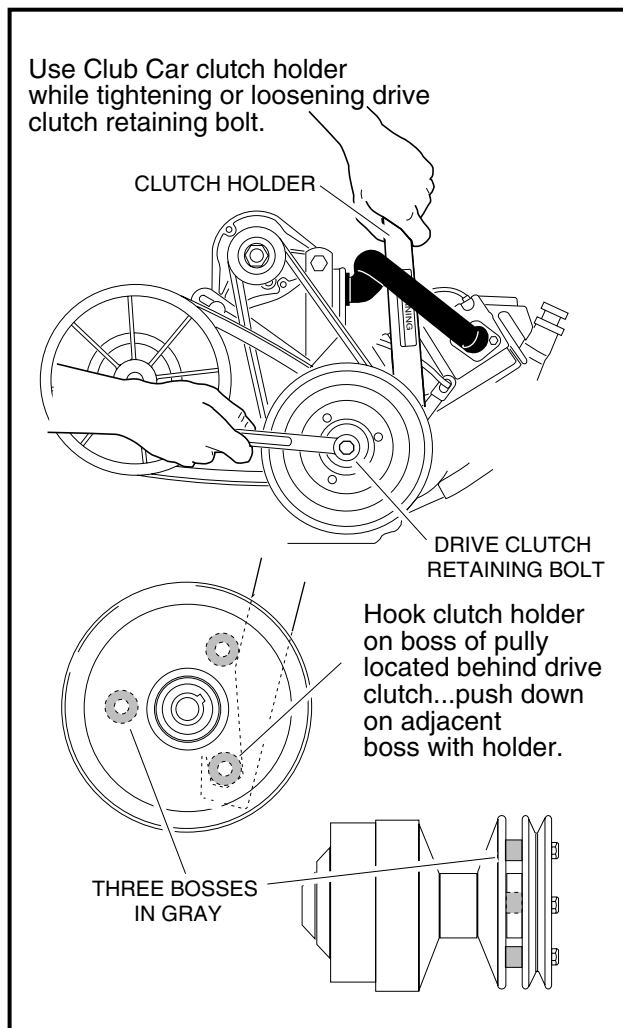
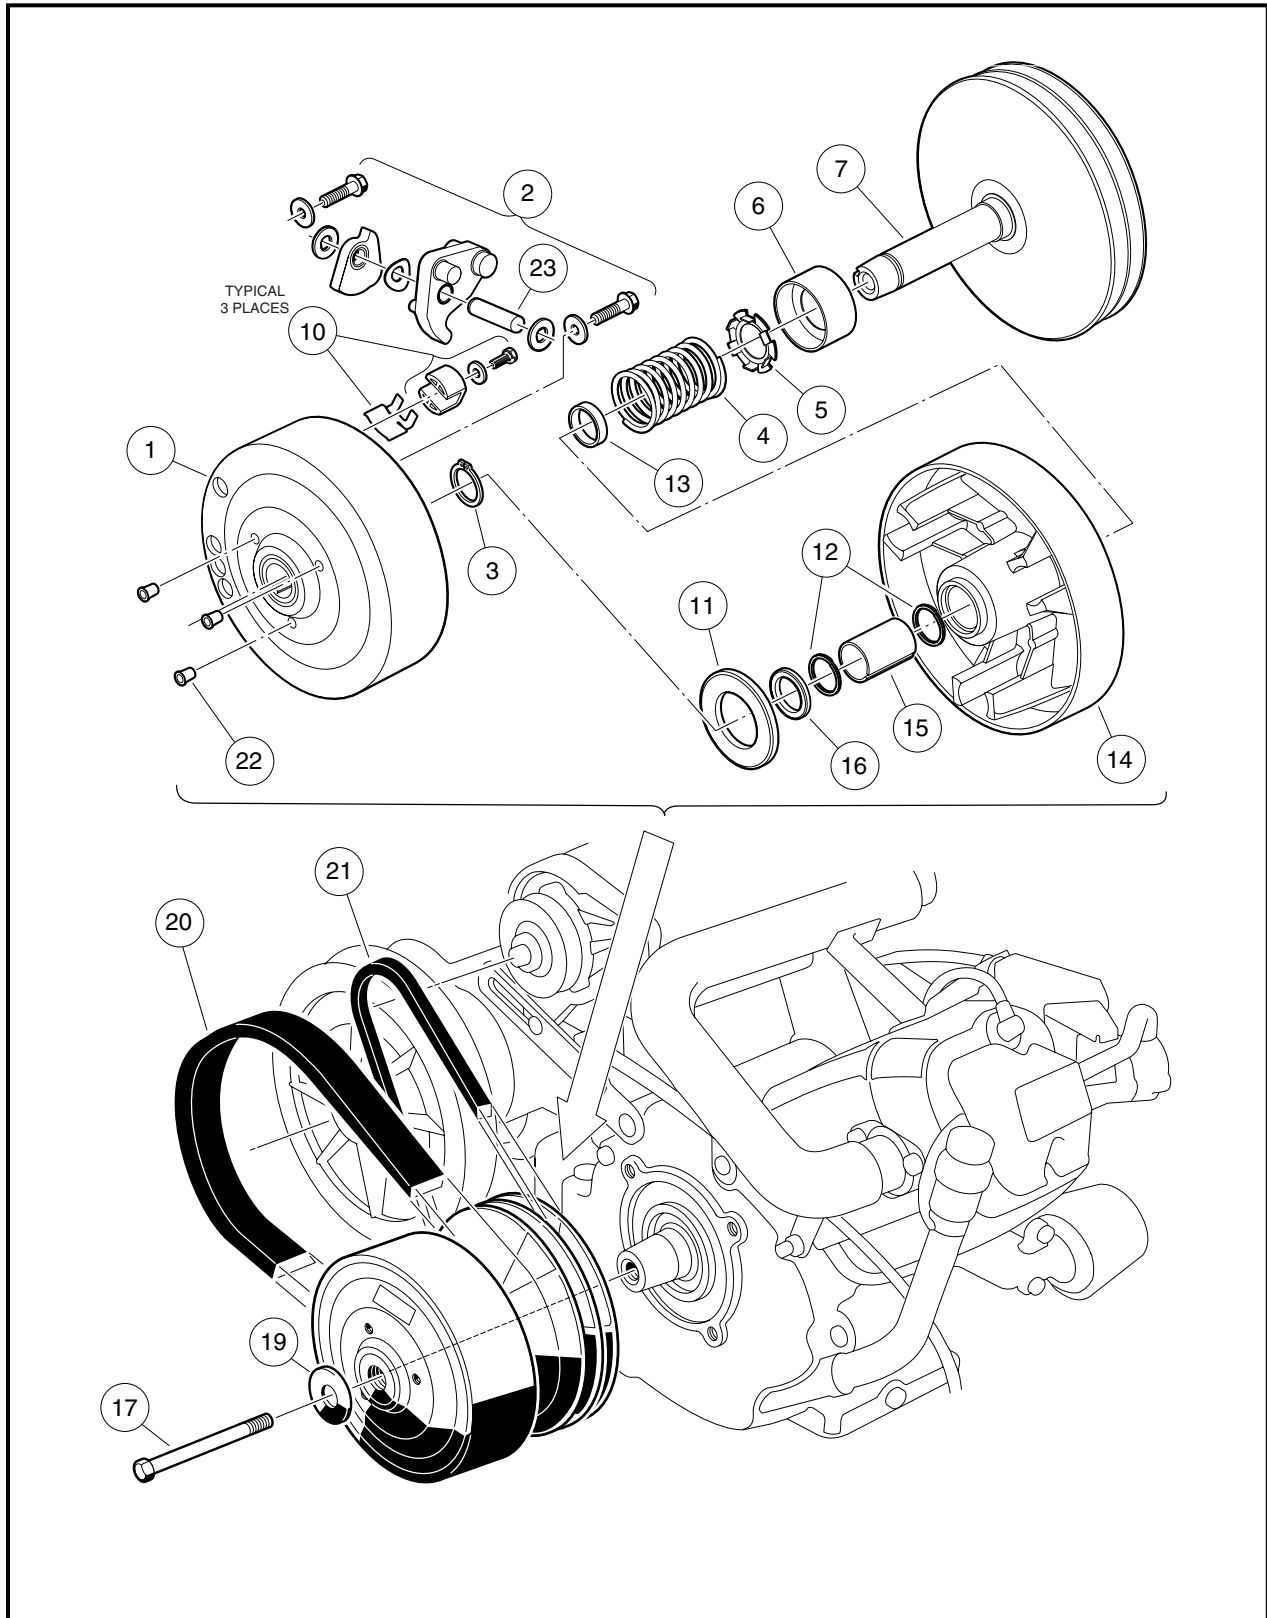
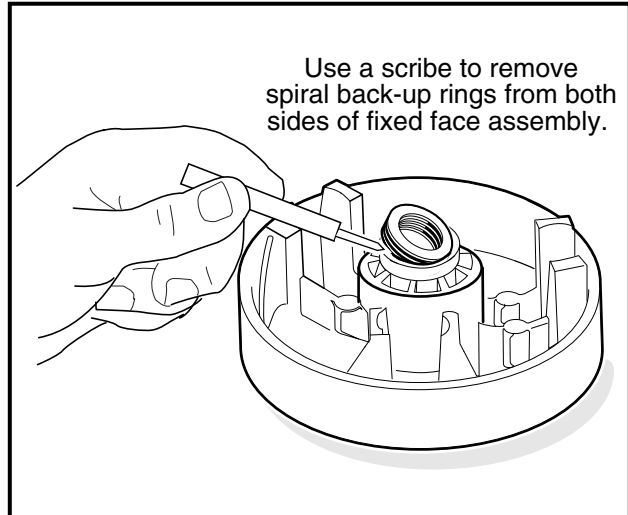

Figure 17-3 Loosen Retaining Bolt
Figure 17-7 Drive Clutch Assembly
Figure 17-11 Spiral Back-up Rings
3. If cleaning both clutches does not solve the problem, disassemble and thoroughly clean all parts in the drive clutch. Be sure to clean the plastic drive buttons (10) (**Figure 17-7, Page 17-8**).
6. Remove the drive clutch retaining bolt (17) and mounting washer (19) (**Figure 17-7, Page 17-8**). See also **Figure 17-3, Page 17-5**.
- Use only a dry cloth to lightly wipe the shaft (7) of the fixed face assembly (Figure 17-7, Page 17-8). Do not use a brush or steel wool. These will damage the surface of the shaft.
2. Remove the clutch drive hub (1) (Figure 17-7, Page 17-8).
- 2.1. Remove the plastic plug ring (22) from the clutch puller attachment holes in the drive hub (1) (Figure 17-7, Page 17-8).
- 2.4. Unscrew the hub puller center bolt from the clutch, forcing the stop nut up against the puller plate, lifting the drive hub (1) from the fixed face shaft (7) (Figure 17-7, Page 17-8).
3. Remove the thrust washer (11) from the moveable face (14).
6. Remove the retaining ring (3) from the shaft of the fixed face assembly (7) and slide the moveable face (14) off the shaft (**Figure 17-7, Page 17-8**). See following NOTE.
**NOTE:** When the moveable face is removed from the hub of the fixed face, the spiral back-up rings (12) must be replaced with new ones at time of assembly (**Figure 17-7, Page 17-8**).
7. Remove the spacer (13), spring (4), and retainer (5). The spring retainer (5) can be removed from the spring if necessary (**Figure 17-7, Page 17-8**).
9. Use a scribe or small pick to remove the spiral backup rings (12) from each end of the bore in the fixed face assembly (**Figure 17-7, Page 17-8**). See also **Figure 17-11, Page 17-10**. Discard the rings.
1. Inspect the idler bearing (6) for smooth rotation or seal damage (**Figure 17-7, Page 17-8**).
2. Inspect the bore of the moveable face assembly (14) for scarring or wear. The moveable face assembly must be replaced if the bore is worn to a diameter of 0.883-inch (22.4-mm) or larger (**Figure 17-7, Page 17-8**).
3. Inspect the steel shaft (7) on the fixed face assembly. There should be no noticeable wear anywhere on the shaft. Replace the shaft if it is worn, scratched, or damaged.
1. Press idler bearing (6) onto the shaft of the fixed face assembly (7). Press on the inner race of the bearing only. Make sure that the cup side of bearing is facing away from the fixed face (**Figure 17-7, Page 17-8**).
2. Use a needle nose pliers to install the spring retainer (5) onto the spring (4).
3. Install the spring (4) and retainer (5) into the cup of the idler bearing (6).
4. Install the spacer (13) onto the shaft of the fixed face.
5. Install a new spiral backup ring (12) in each end of the bore of the moveable face assembly (14).
6. Install the moveable face assembly (14) onto the shaft of the fixed face assembly (7). **See following CAUTION.**
- 6.2. Install the retaining ring (3) (Figure 17-7, Page 17-8).
12. Install the 1/4-20 screws and washers (2) and tighten them to 10 ft-lb (13 N·m) (**Figure 17-7, Page 17-8**).
16. Install the thrust washer (11) onto the moveable face assembly (**Figure 17-7, Page 17-8**).
17. Install the hub assembly (1) on the moveable face assembly and align the match marks made before disassembling the clutch. Press the hub assembly on by hand.
18. Replace the plastic ring (22) hole protector.
1. Place the drive clutch assembly on the crankshaft taper. Position the mounting washer (19) (with the green side facing out) on the bolt (17) and start the bolt into the crankshaft (**Figure 17-7, Page 17-8**). See following **NOTE**.
2. Tighten the drive clutch retaining bolt (17) to 25 ft-lb (33.9 N·m).